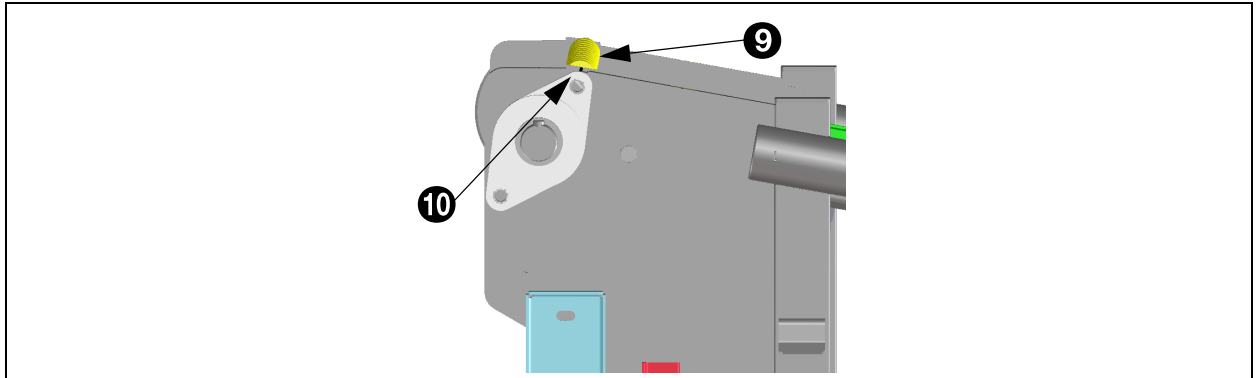

Fig. 88 - Position of the roller shaft in relation to the drive shaft
1. Align the centre of a roller shaft (9) to the centre of the bolt or notch in the shield (10) of the infeed-unit, see fig. 88.